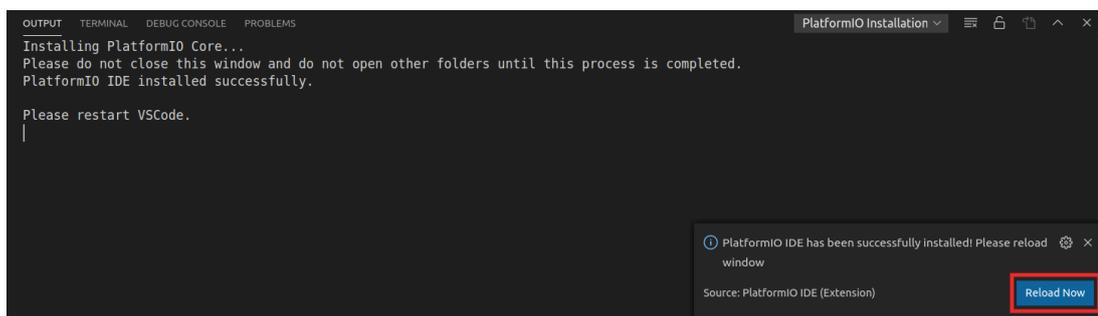

Figure 4. Reload Now after PlatformIO installs
- e. The OUTPUT window on the bottom will inform you about the installation process. Once finished, click “Reload Now” on the bottom right side window, and PlatformIO will finish installing inside VSCode (see Figure 4).